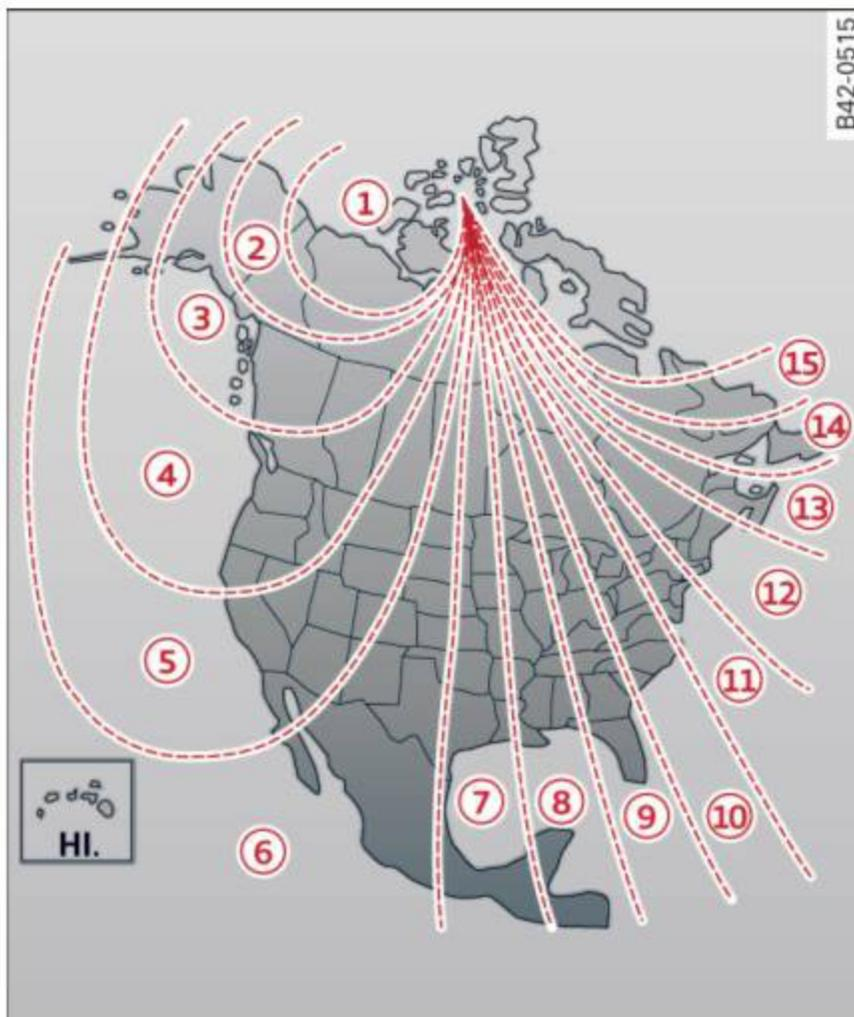

Fig. 51 North America: magnetic deflection zone boundaries
- ▶ Press and hold the button **A** ⇨ *fig. 51* until the number of the magnetic zone appears in the rearview mirror.